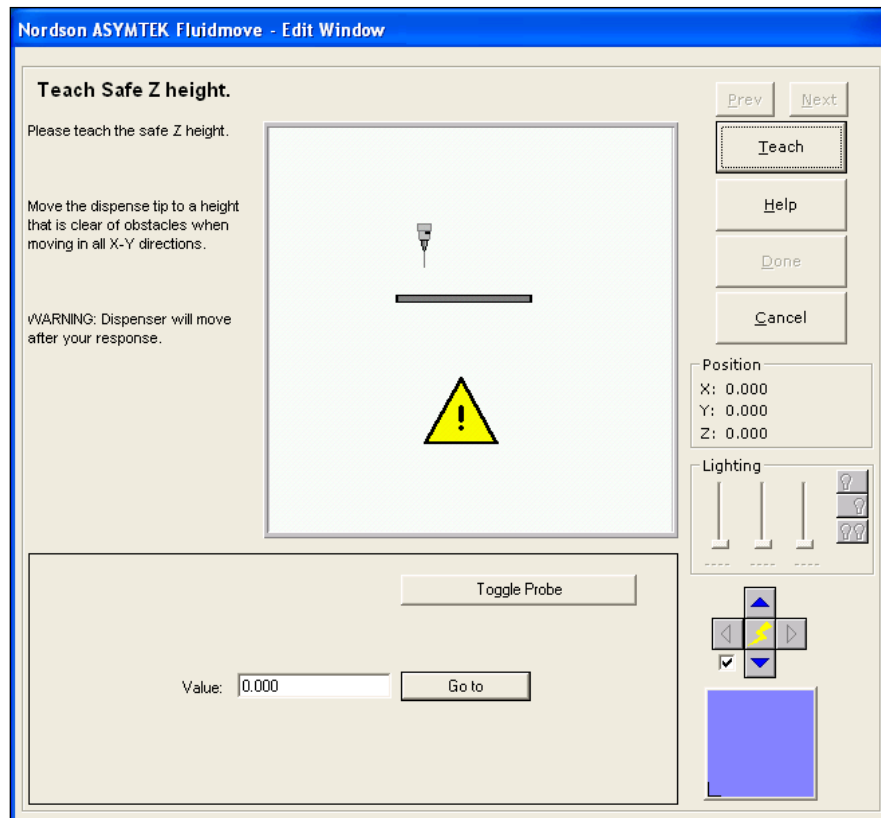

Figure 4-6 Valve Offsets: Safe Z Height
*To teach safe Z height (Figure 4-6):*